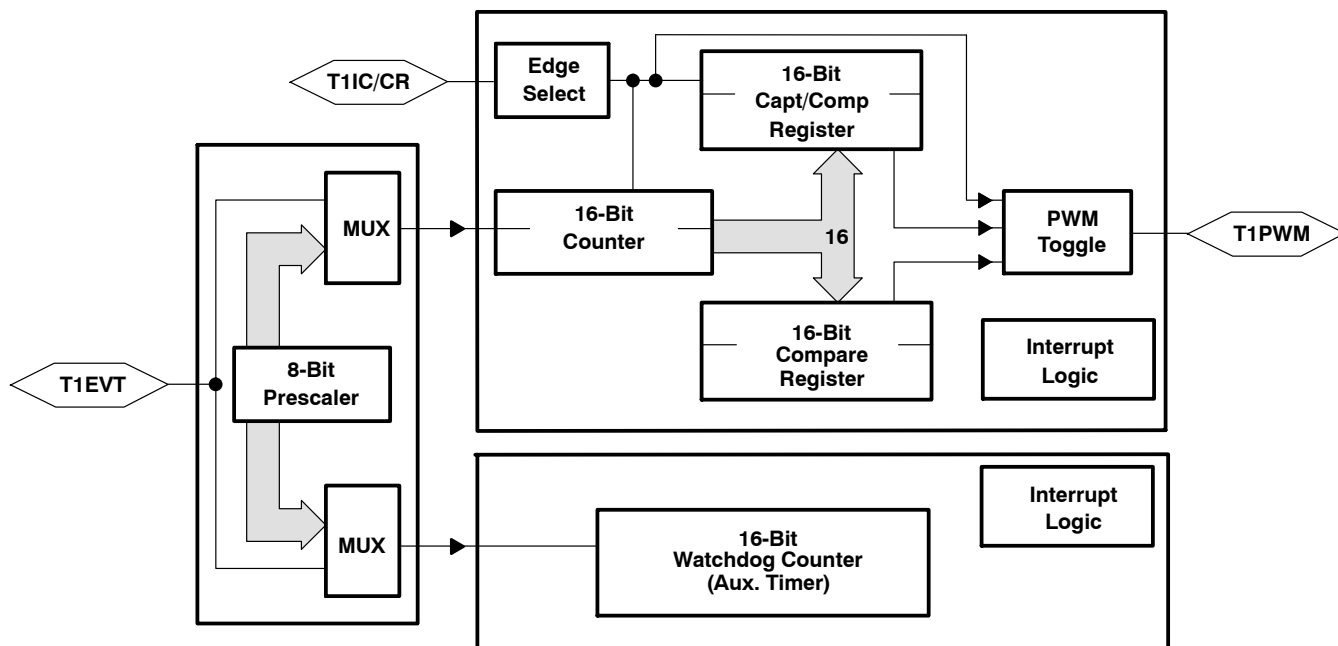

Figure 6. Timer 1 Block Diagram
The programmable timer 1 (T1) module of the TMS370Cx7x provides the designer with the enhanced timer resources required to perform real-time system control. The T1 module contains the general-purpose timer and the watchdog (WD) timer. The two independent 16-bit timers, T1 and WD, allow program selection of input clock sources (real-time, external event, or pulse-accumulate) with multiple 16-bit registers (input capture and compare) for special timer function control. The T1 module includes three external device pins that can be used for multiple counter functions (operation-mode dependent) or used as general-purpose I/O pins. The T1 module block diagram is shown in Figure 6.